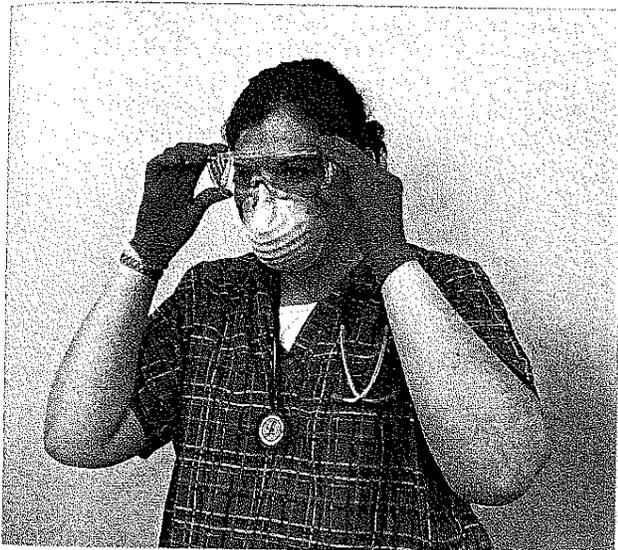

FIGURE 3. Putting on goggles and mask.
11. Put on face shield or goggles and mask (Figure 3). Put on sterile gloves. The dominant hand will manipulate the catheter and must remain sterile. The nondominant hand is considered clean rather than sterile and will control the suction valve (Y port) on the catheter.